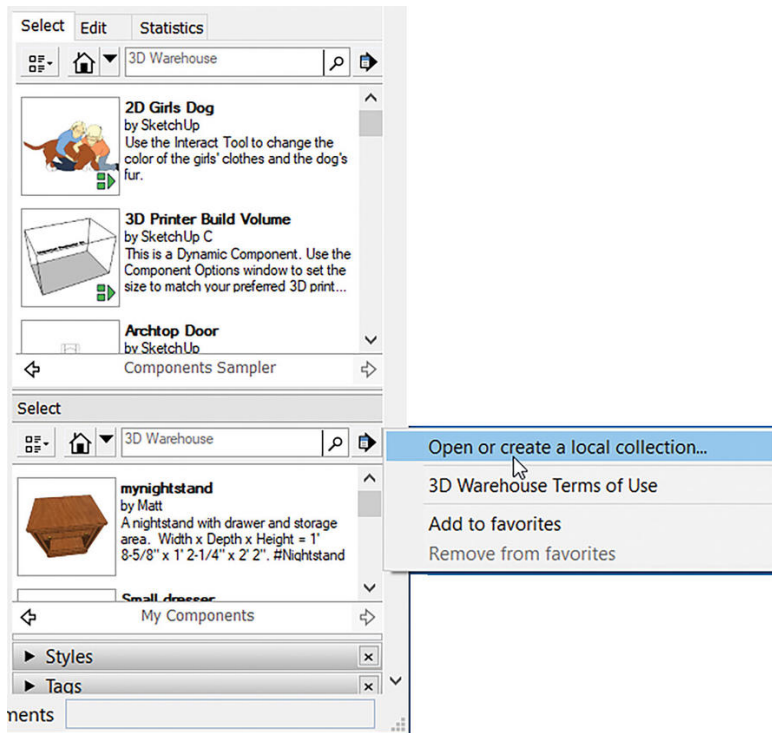

Figure 5-56: Click the arrow and choose *Open or Create a local collection*.
2. Make a new folder on your desktop and call it *My Components*. Then click the *Details* arrow and choose *Open or Create a local collection*; on the Mac choose *Create a new collection* (Figure 5-56).